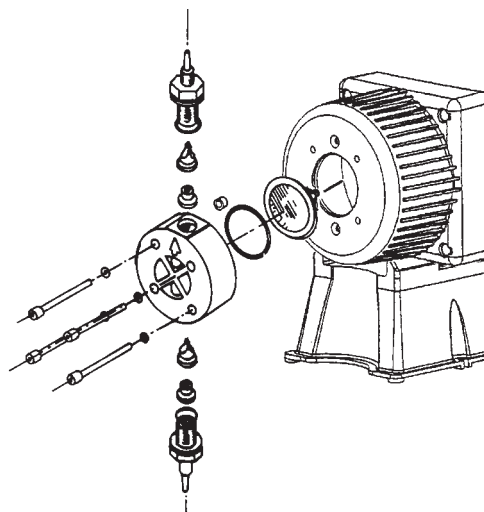

Fig. 11
- the additive concentration in the process plant; a reduction of this concentration could be caused by the wearing of the valves, in which case they need to be replaced (Fig. 11) or by the clogging of the filter which then has to be cleaned as in point 3 here below.
This operation can also be done with the pump disconnected from the plant by turning the pump upside-down for 15 to 30 seconds and without connecting the hose to the nipples; if impossible, dismount and remount the pump head (Fig. 11) using the four mounting screws.
Very rarely there may be losses caused by the breakage of the membrane, or by the membrane seals in which case they have to be replaced by disassembling the four screws of the pump head fig. 11), when re-mounting the pump head ensure that the screws are replaced properly, along with "O" ring.
❶ - THE METERING PUMP GIVES PULSES BUT THE ADDITIVE IS NOT INJECTED
- a. Dismount the suction and discharge valves, clean them and replace, see position (fig. 11). Should the valves be swollen, check valves material against our chemical resistance compatibility chart and fit correct valves. Standard valves are Viton. Upon request Silicon, EPDM (Dutral), Nitril and valves, ball check valve, K valve can be supplied.